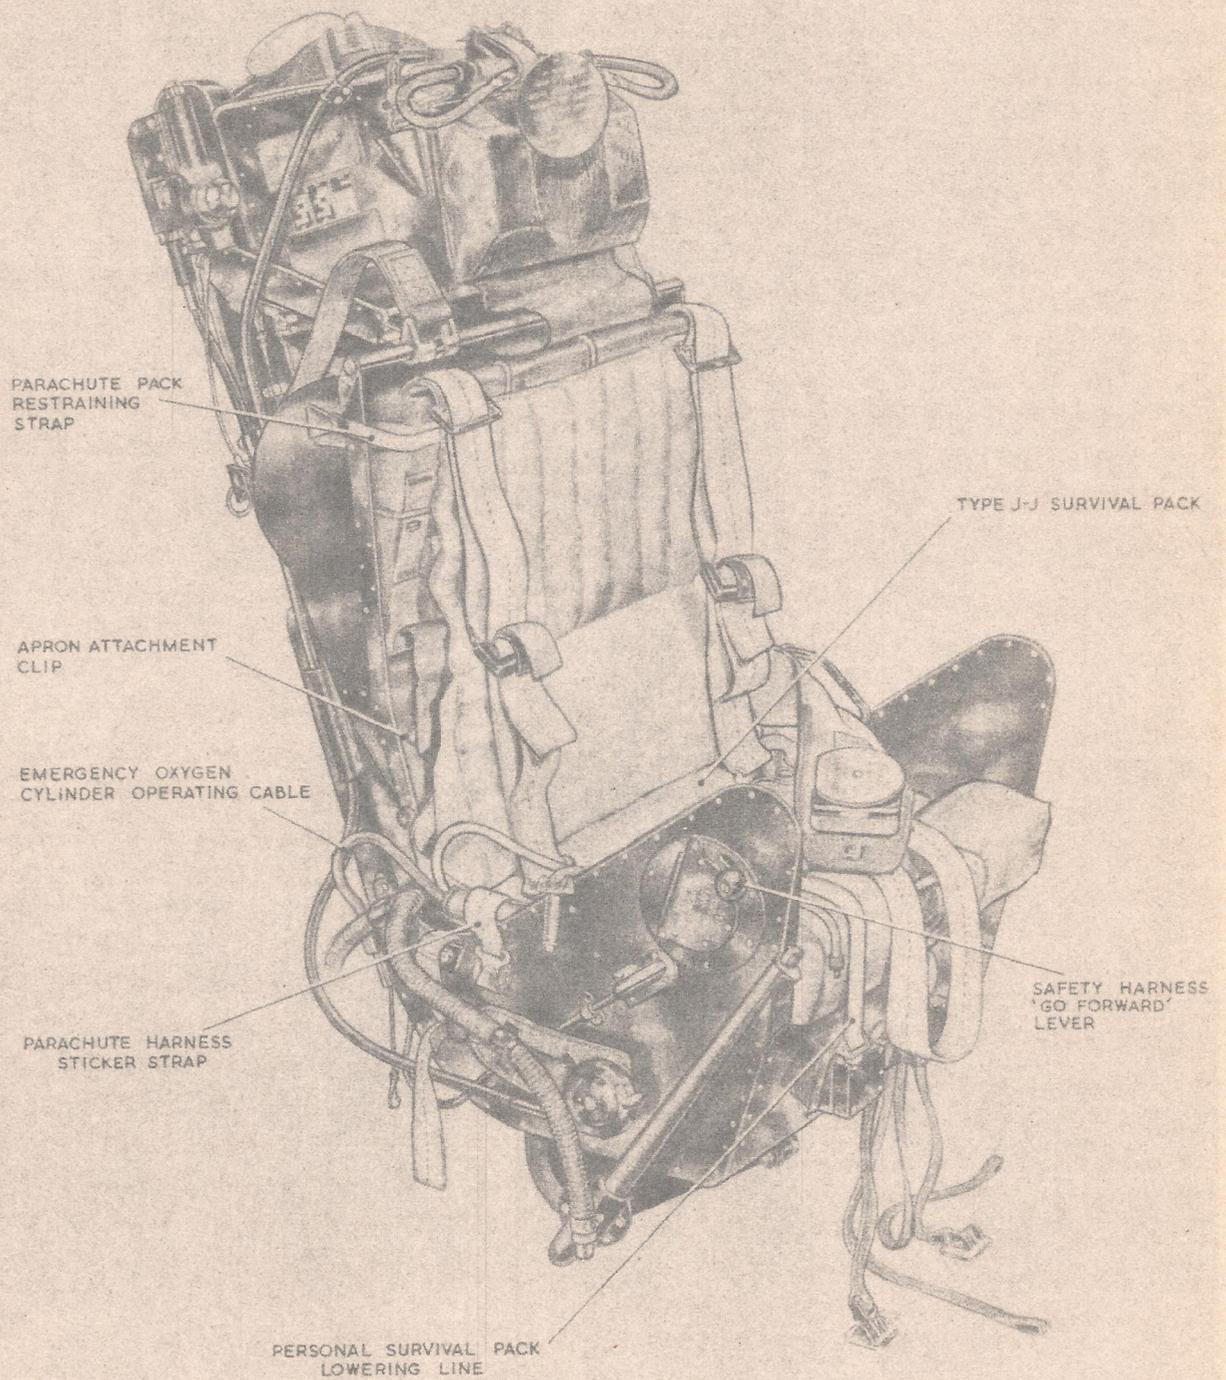

FIG.1. THE SEAT EQUIPPED (1)
8. The following procedure is to be adopted when equipping the seat; reference is to be made to fig.1, 2, 3, and 4 as necessary:-
3. Para. 8 and 9 and fig 1 and 6 will be suitably amended.